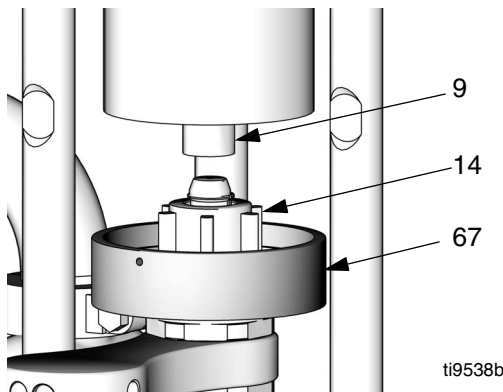

FIG. 7. Position Collector
2. Jog motor to move slider piston (9) up, giving adequate clearance to fit collector (67) between slider cylinder and piston rod.
3. See FIG. 7. Position the collector (67) over the coupling nut (14) and drop it down onto the pump piston rod.